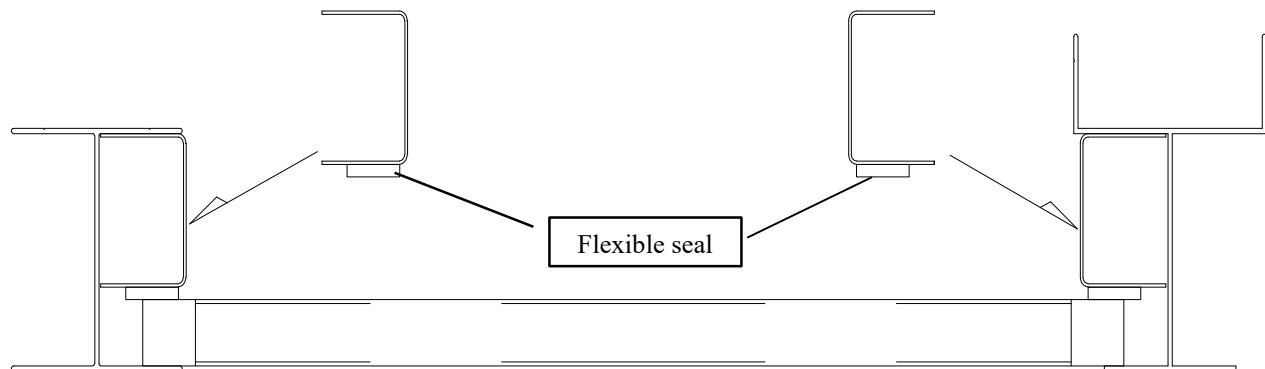

Figure 39
24. Center the window panels left to right and install the EZ Verticals on either side of the windows. They should be placed on the inside of the run. Note the orientation of the flexible seal along one edge of the EZ Vertical. See figure 39.